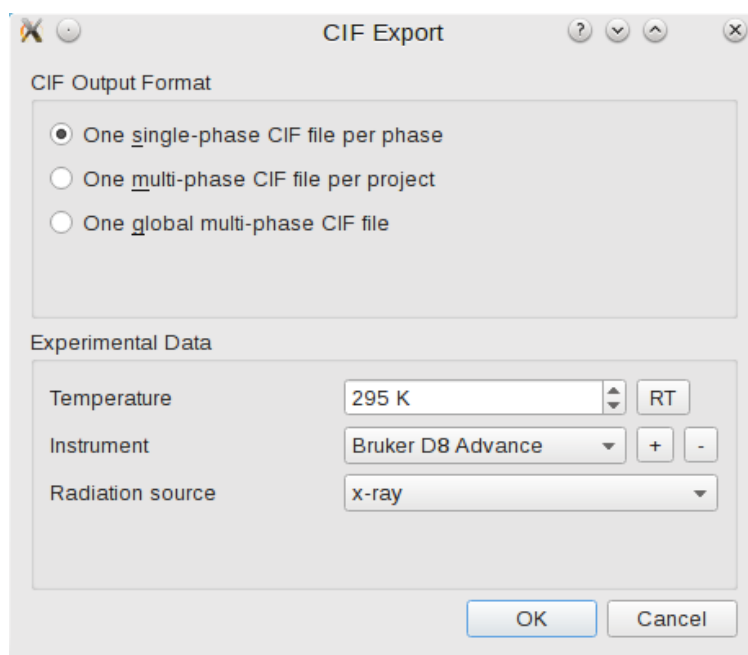

Figure 10: Export options for CIF structure files.
5. A CIF export dialog will be shown (Fig. 10). Set up the output options to your preferences and click „OK”. The individual options will be explained below.